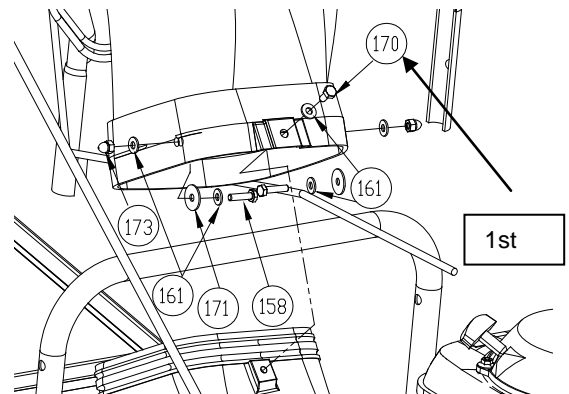

Fig. 2
- Install (item 170) center bolt first when aligned with a nut on the housing. (See Fig. 2)
- Attach rest of hood assembly to the housing using corresponding hardware. *NOTE:* You will have to insert the bolt/washer from the inside by reaching through the hood. (See Fig. 2)